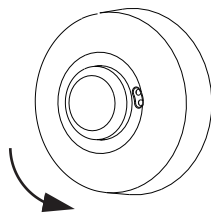
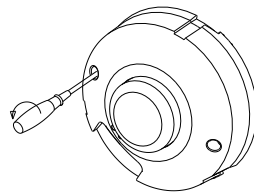

fig.1
fig.2
1. Take down the top cover by turning it anti-clockwise(see fig.1), and then tighten off the two screws fixing middle cover(see fig.2);